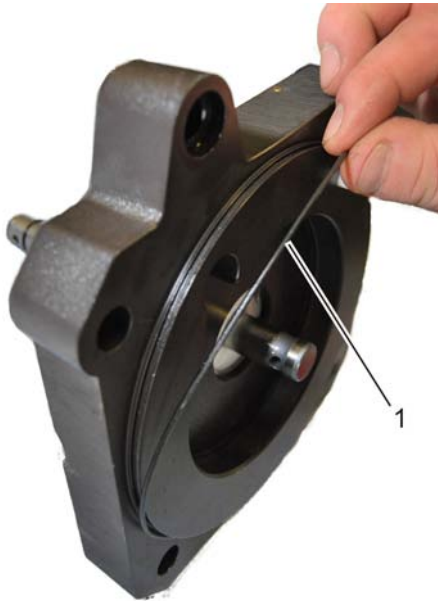

Fig. 75: Seal of lower cap
- 17.** Check seals of lower cap (Fig. 75/1) and replace if necessary.